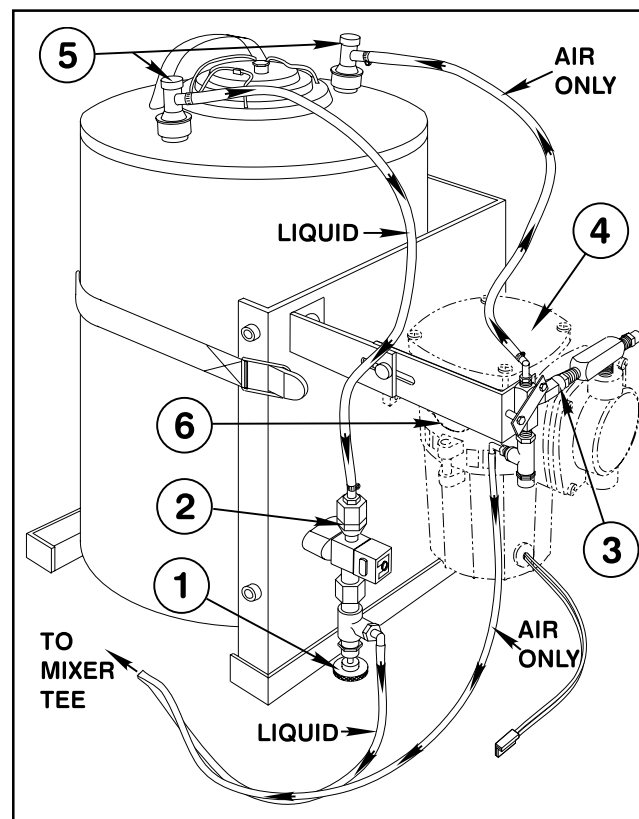

Figure 2
7. For first time operation, open the Foam Density Adjustment Valve 1/8 to 1/4 turn. (Fig. 2)
EVERY 100 HOURS (Fig. 2):
EVERY 250 HOURS (Fig. 2)
STORAGE (Fig. 2):